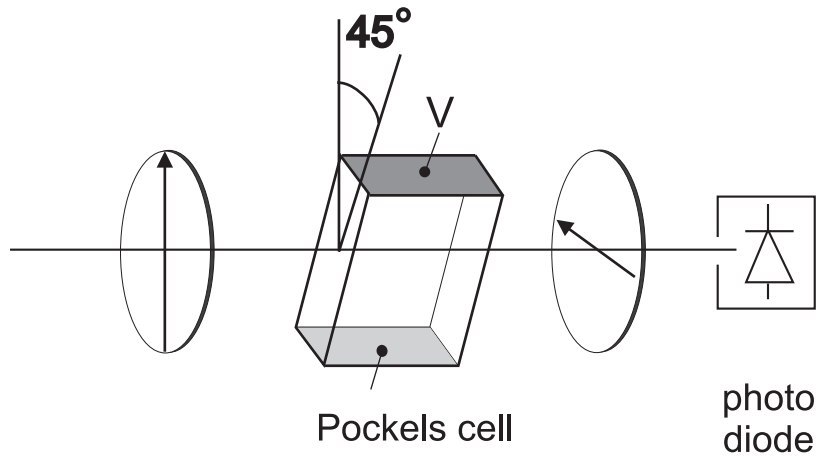

Figure 8: *Experimental Set-up for Transverse Amplitude Modulation*
1. Construct the set-up outlined in Fig. 8, with the Pockels cell placed between two crossed polarizers with their transmission axes at an angle of  $45^\circ$  to the optical axis of the crystal. **Why does the Pockels cell need to be at  $45^\circ$ ?** Make sure you have determined the correct orientation of the Pockels cell. Make sure you will not saturate the photodiode.
Consider the set-up of your previous experiment, see Fig. 8. For a certain range of voltages, the intensity output of the setup shows an almost linear dependency with the applied voltage. This means that it is possible to linearly modulate the intensity of the transmitted light and thus transmit an arbitrary signal optically. For this, one has to modulate the applied voltage to the Pockels cell with the desired signal. For maximum signal amplitude modulation, you have to set up the Pockels cell at this particular voltage, then also a low-voltage signal can suffice to give an appreciable intensity variation.
To test the possibility of linear amplitude modulation, and to get an idea of the possible response-time of the Pockels cell, use the set-up of the previous experiment, see Fig. 8. Use the 'internal' setting of the high voltage supply to apply a DC offset voltage to the Pockels cell. Use the function generator for a high frequency ( $\sim$  kHz) signal. Add both signals via the filter-box in the set-up; now the Pockels cell will 'see' both voltage signals. Compare the function generator / input signal with the photodiode signal on the oscilloscope; optimize the amplitude response of the photodiode (in other words: optimize the modulation efficiency of your set-up) by varying the offset voltage for the Pockels cell.